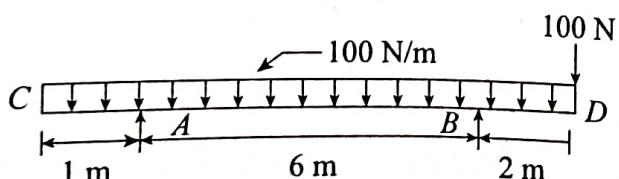

Figure 6.24
- 6.11 Draw SF and BM diagrams for the beam shown in Fig. 6.24. Determine the points of contraflexure. What is the maximum BM.